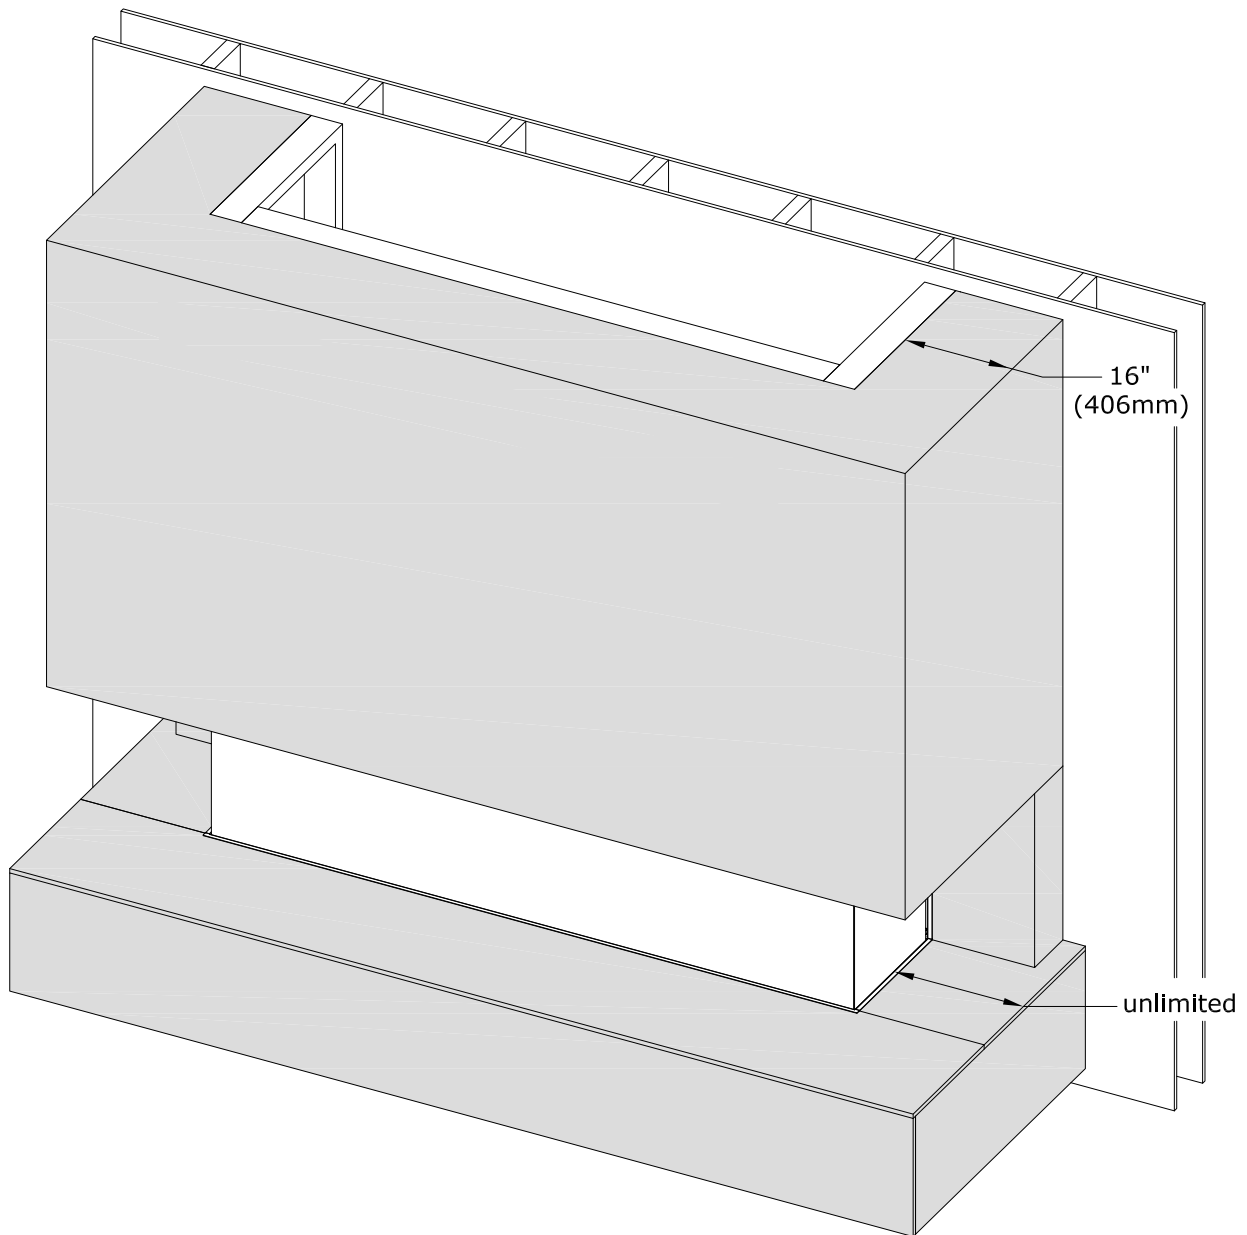

Figure 3.35 - Front and Side Projections
- **Combustible Mantel Leg:** A mantel leg can be installed at 0" (0mm) to the fireplace side finishing edge. Refer to Figure 3.35 which shows a combustible projection up to a max of 16" (407mm) on the fireplace side finishing edge.
Figure 3.35 shows a fireplace with a front and side chamber projection with a hearth installed.